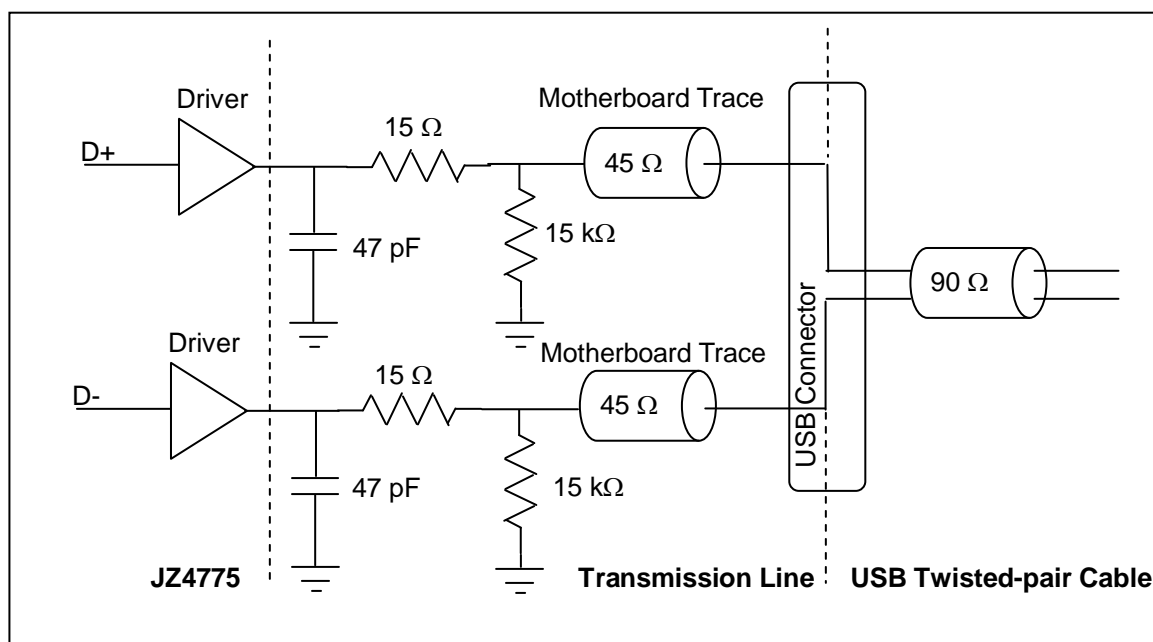

Figure 6-2 Recommend USB Host Schematic
- The trace impedance for the DP and DM signals should be 45 Ω (to ground) for each USB signal DP or DM. This may be achieved with 9-mil-wide traces on the motherboard based on the stack-up recommended in Figure 6-2 6-3. The impedance is 90 Ω between the differential signal pairs DP and DM, to match the 90 Ω USB twisted-pair cable impedance. Note that the twisted-pair characteristic impedance of 90 Ω is the series impedance of both wires, which results in an individual wire presenting 45 Ω impedance. The trace impedance can be controlled by carefully selecting the trace width, trace distance from power or ground planes, and physical proximity of nearby traces.